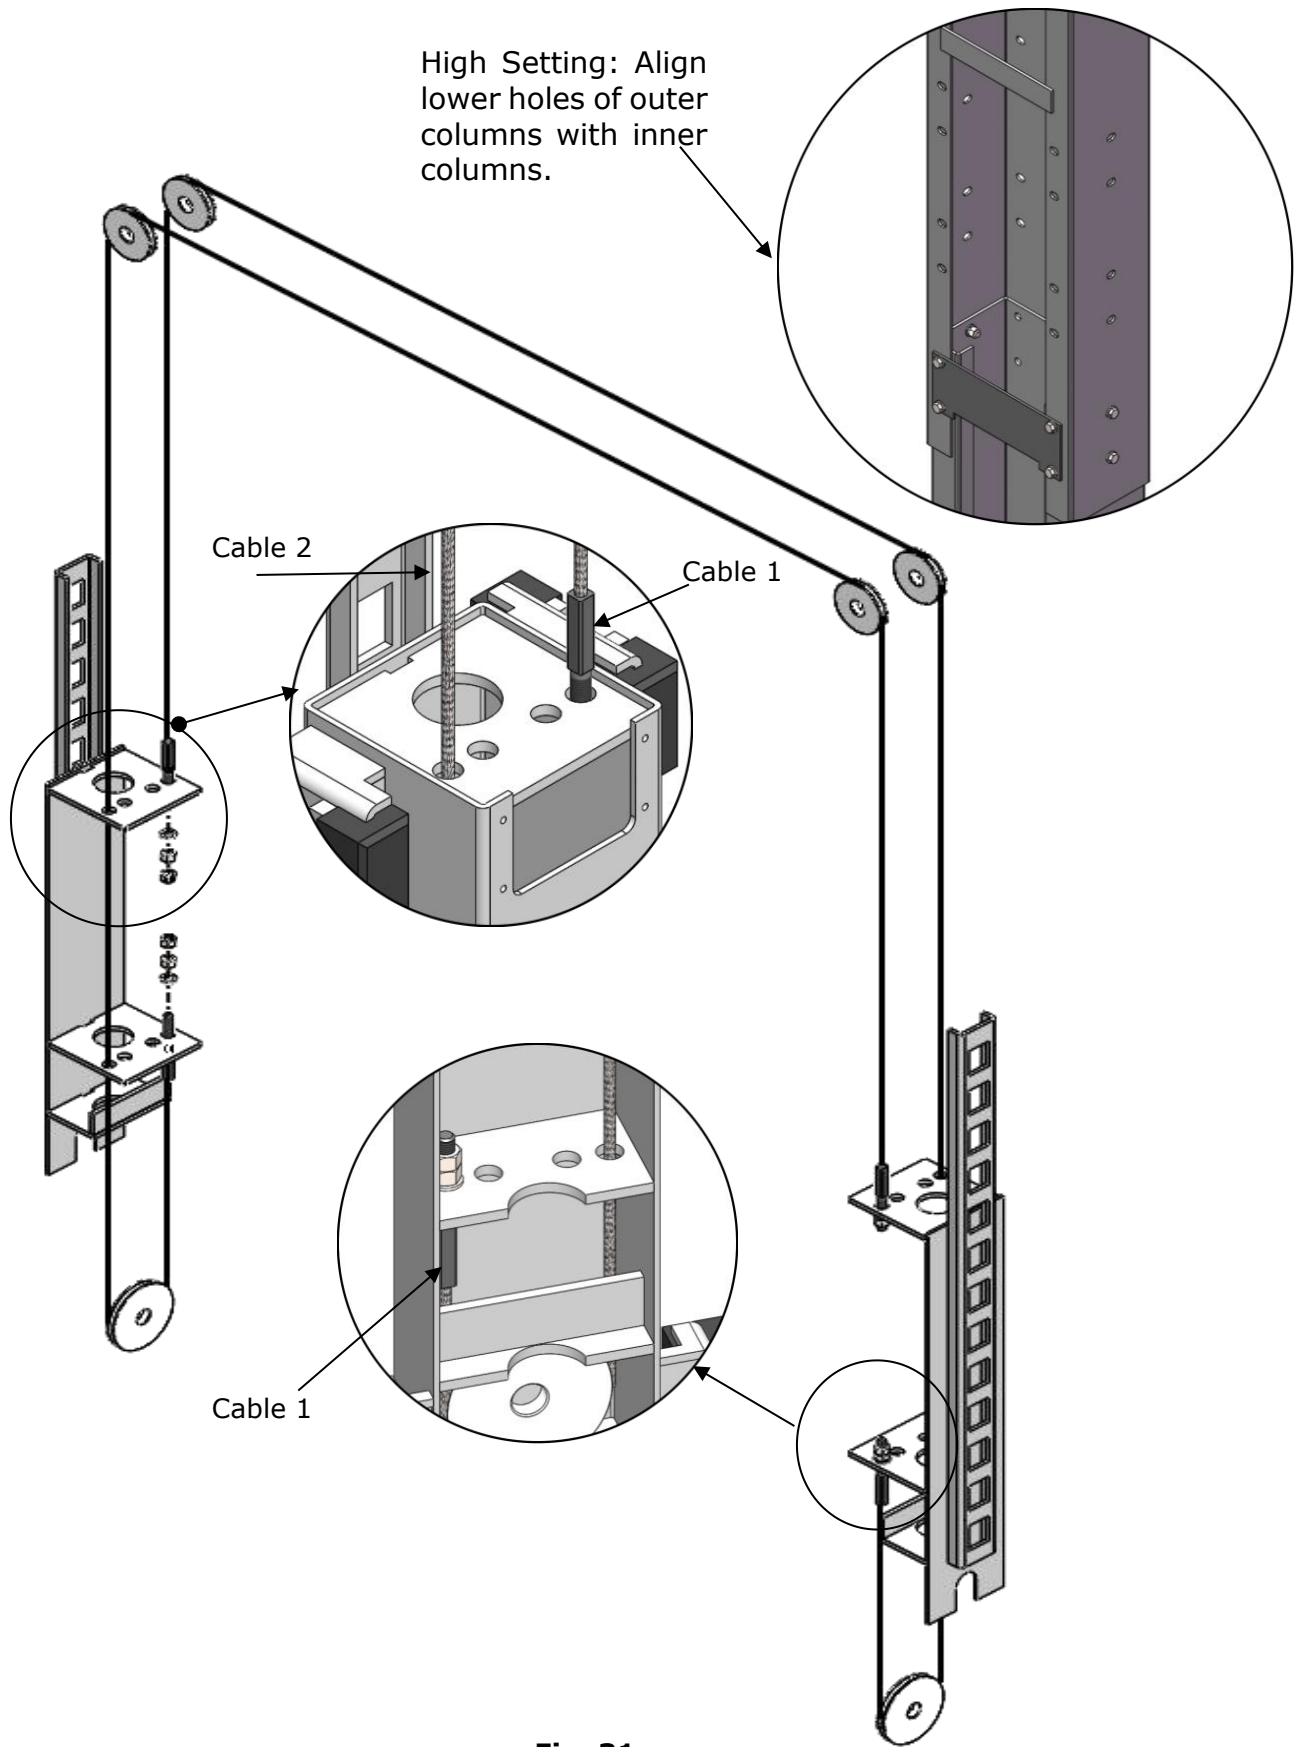

Fig. 31
1.2 Connecting sync cable for high setting. **(See Fig. 31)**